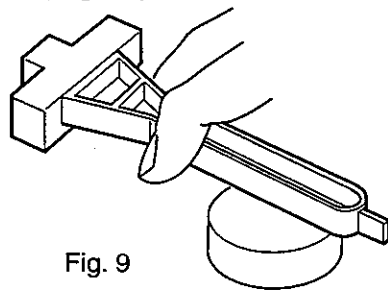
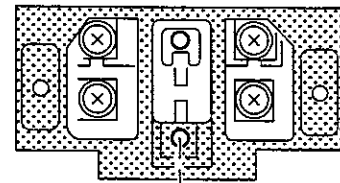

Fig. 9
Fig. 10
- Step 6. Remove the lower side screw of tension flexure. Support the beam assembly with your thumb and forefinger (Fig 9) and remove the upper side screw of tension flexure (Fig 10).